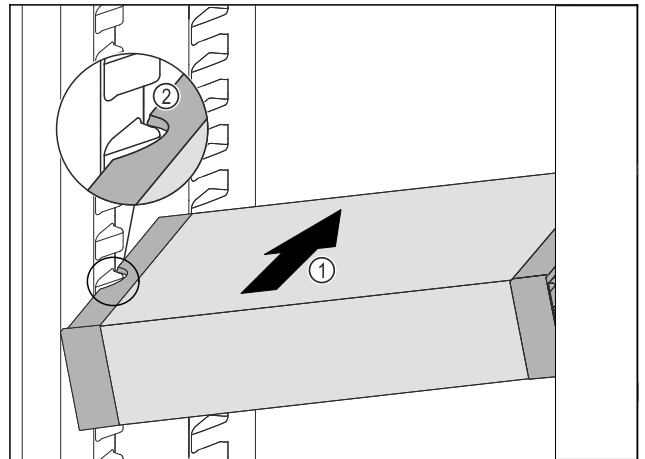

Fig. 56
- ▶ Insert the VarioSafe into the fridge section at an angle Fig. 56 (1) until the recesses in the side Fig. 56 (2) of the VarioSafe are at the level of the support rib in the fridge section.